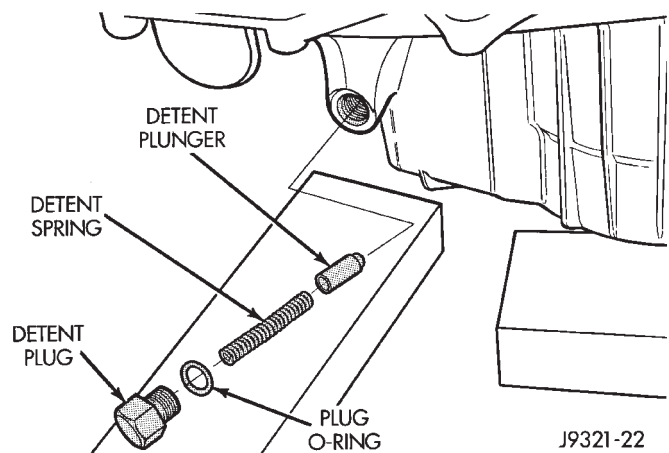

Fig. 22 Detent Plug, Spring And Plunger Removal
(22) Remove detent plug, plug O-ring, detent spring and detent plunger (Fig. 22).